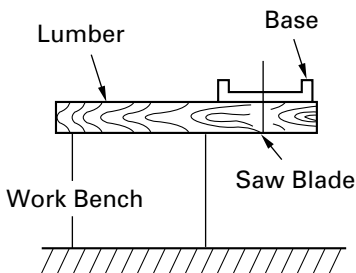

Fig. 12
7. Prepare a wooden work bench (Fig. 12)